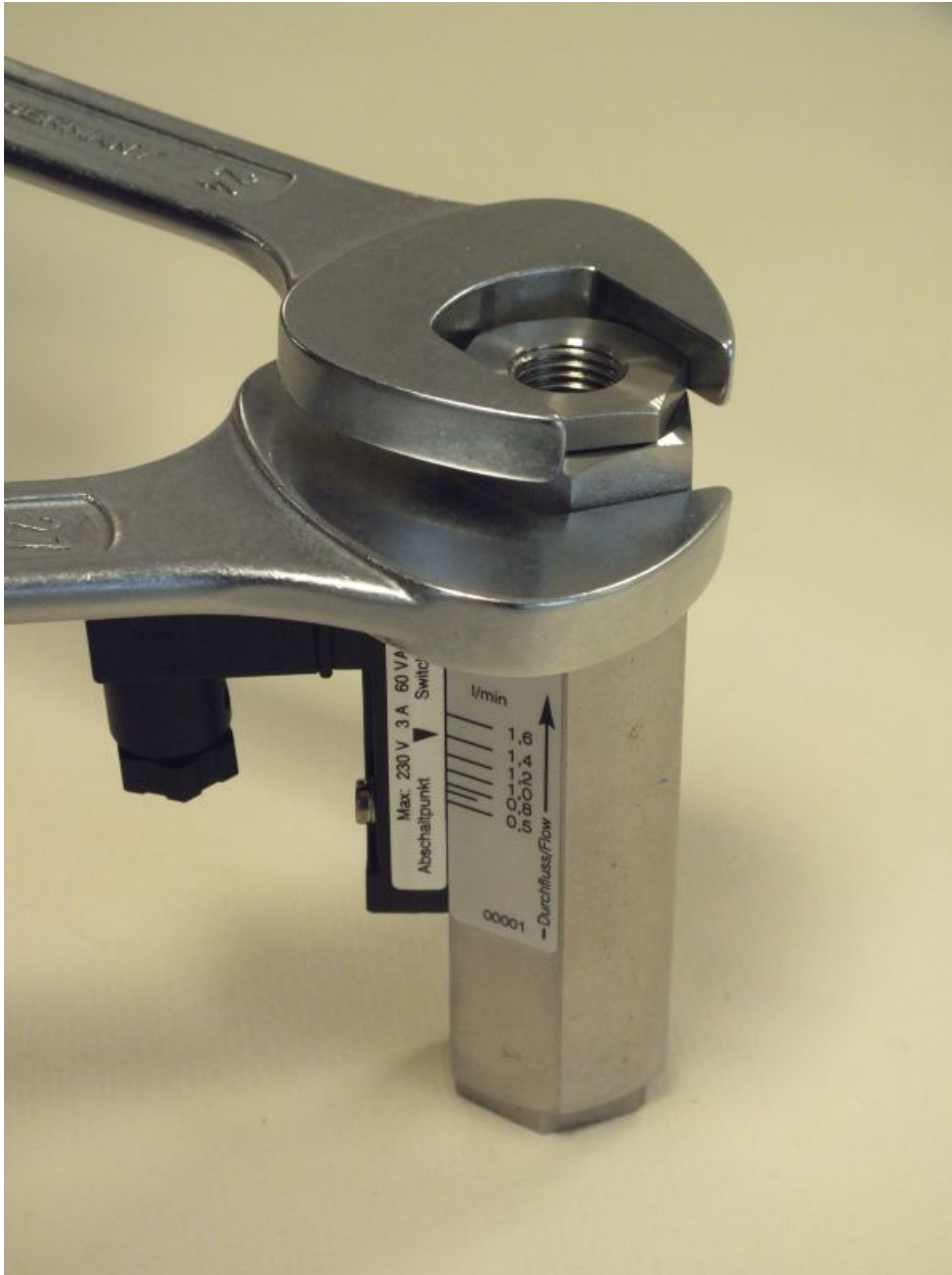

Fig. 53: Tighten process connection (outlet)
- 11.** ▶ Using a proper sized fixed spanner tighten the process connection (outlet). Hold the device body in place using a suitable fixed spanner (Fig. 53), and observe the proper torque (→ Chapter 11.1 “Tightening torque” on page 84).